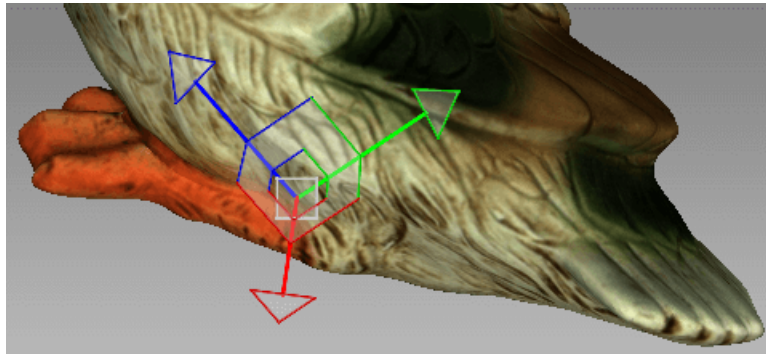

Figure 100: Translation control
- Translate the object in the *3D View* window by dragging the corresponding control (see *Figure 100*):